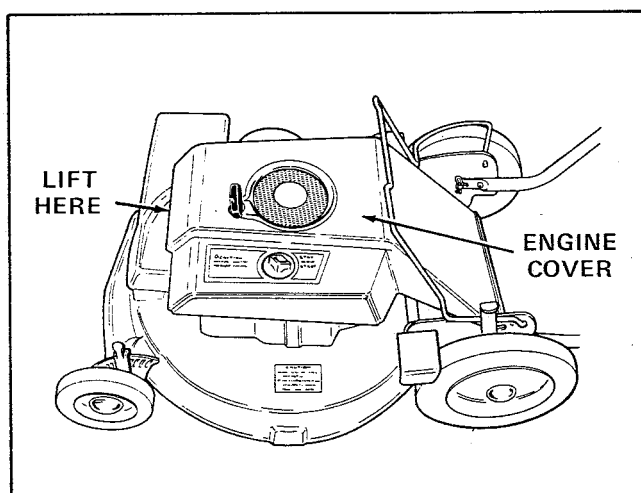

Figure 3. Lifting Engine Cover
- a. Lift engine cover (see figure 3) up to rear.